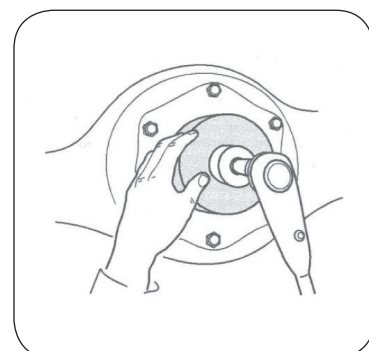

Figure 3
6. Use a torque wrench and appropriate socket, set the torque wrench break-out value at 50 ft. lbs. Tighten pinion nut until torque break-out value is indicated. See Figure 3.